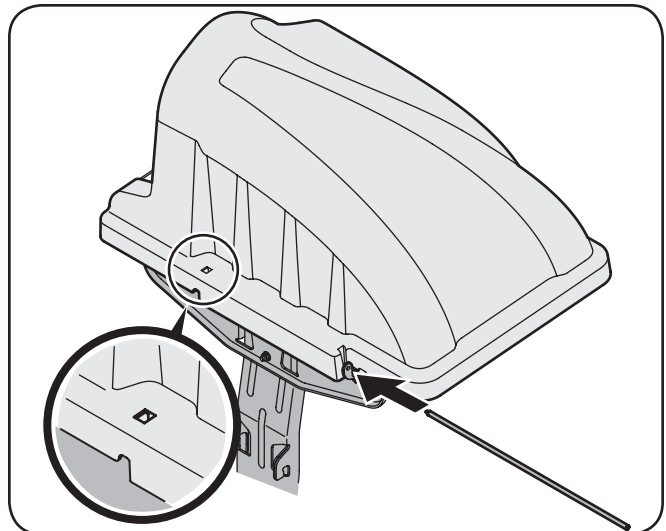
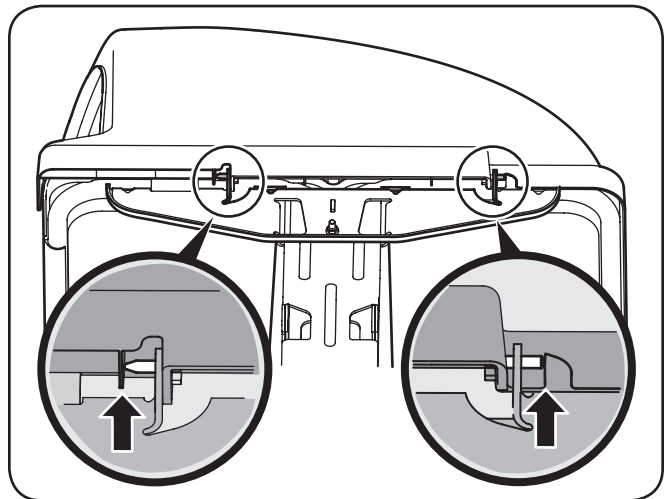

Figure 4-10
Figure 4-11
- Slide the hinge pin into the hole located on the mounting tab, as in Figure 4-10. Use the cut-out window (See inset in Figure 4-10) to line up the hinge pin on the other side and push pin all the way in until it reaches the end-stop. At this point the pin clips into place and is secured by a tab in the bagger cover. See Figure 4-11.